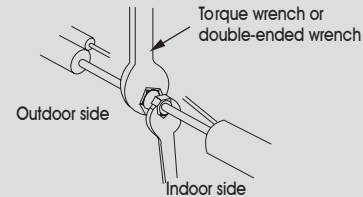

Figure 15
- Align the center of the flare surface, and tighten the indoor pipe union and connection pipe flare nut with a torque wrench or double-ended wrench. (Figure. 15)